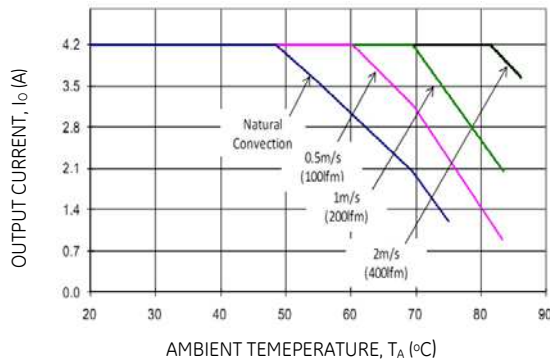

**Figure 13.  $T_{ref}$  Temperature Measurement Location for Module with Heatplate.**
To provide protection under certain fault conditions, the unit is equipped with a thermal shutdown circuit. The unit will shutdown if the thermal reference point,  $T_{ref1}$  exceeds 135°C (Figure 12, typical), or  $T_{ref2}$  exceeds 120°C (Figure 13, typical), but the thermal shutdown is not intended as a guarantee that the unit will survive temperatures beyond its rating. The module will automatically restart upon cool-down to a safe temperature.
The thermal reference point,  $T_{ref2}$ , used in the specifications for modules with heatplate is shown in Figure 13. For reliable operation this temperature should not exceed 104°C.